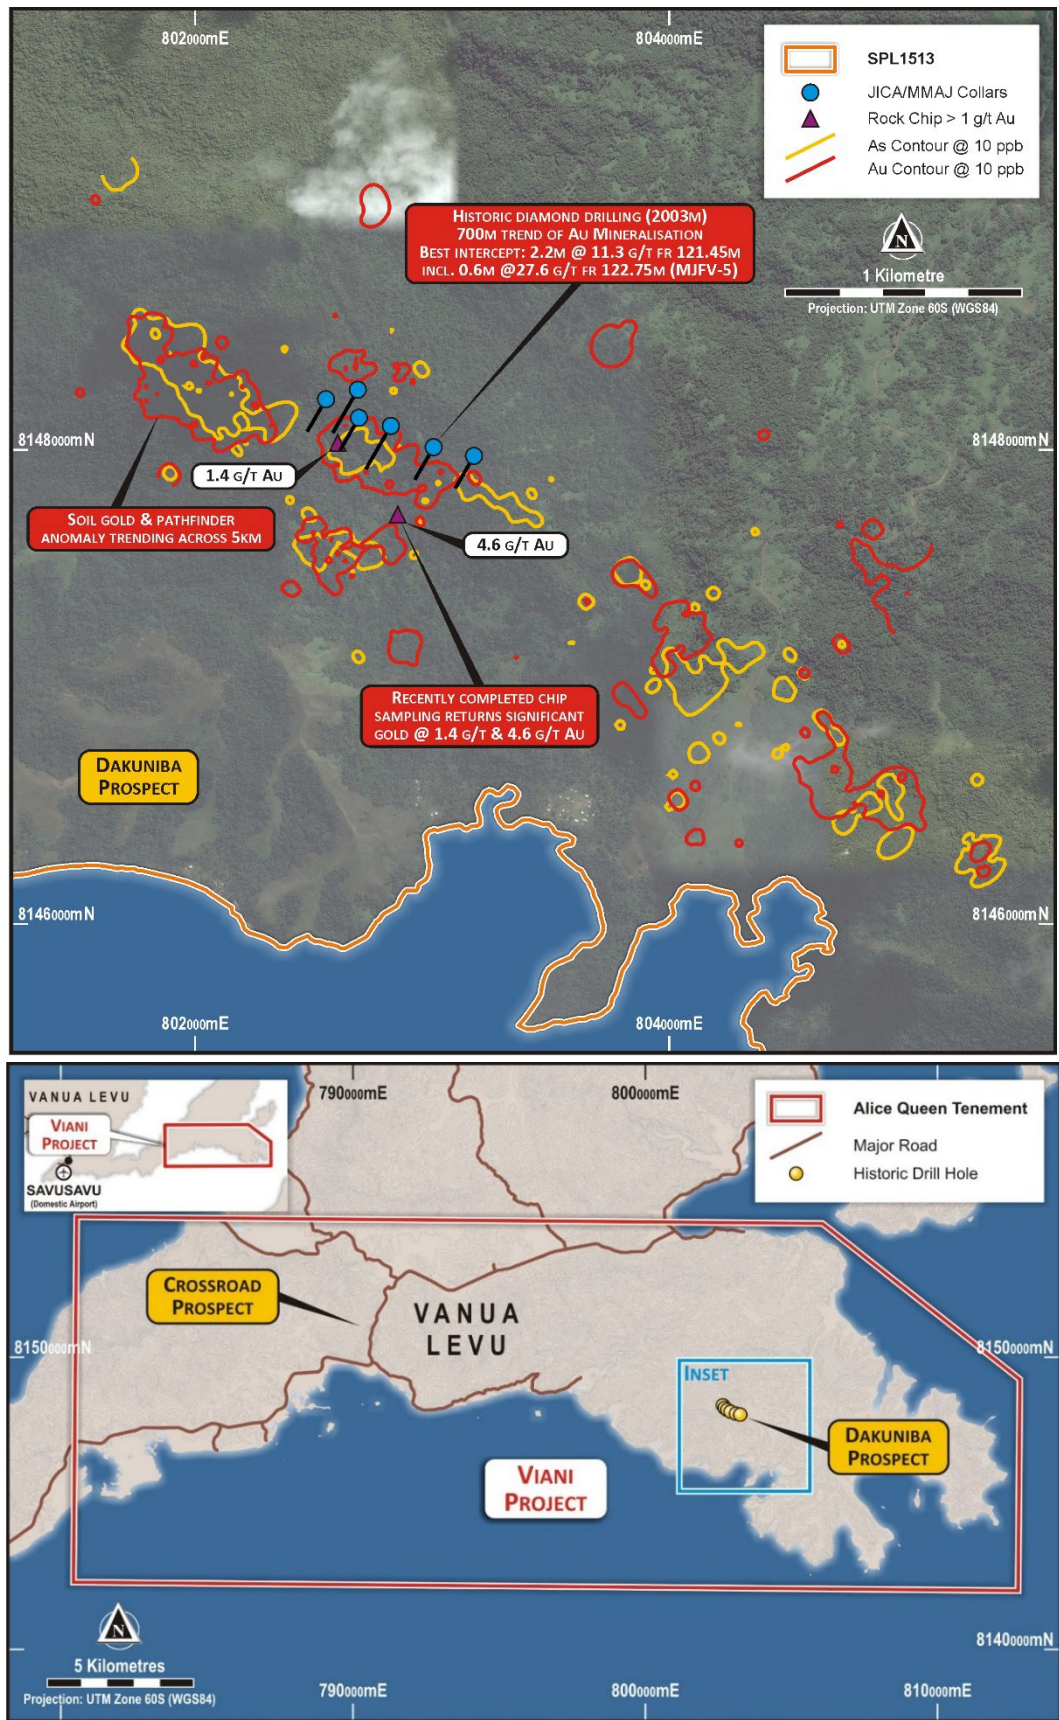

Figure 2 – Viani Project area and historic and recent exploration results highlighted across the Dakuniba Prospect (top map).
- ◆ Soil sampling results across a 5x1km area has revealed a 5km trending gold and associated pathfinder (Ag, Cu and As) anomaly (Dakuniba Prospect) (see Figure 2)